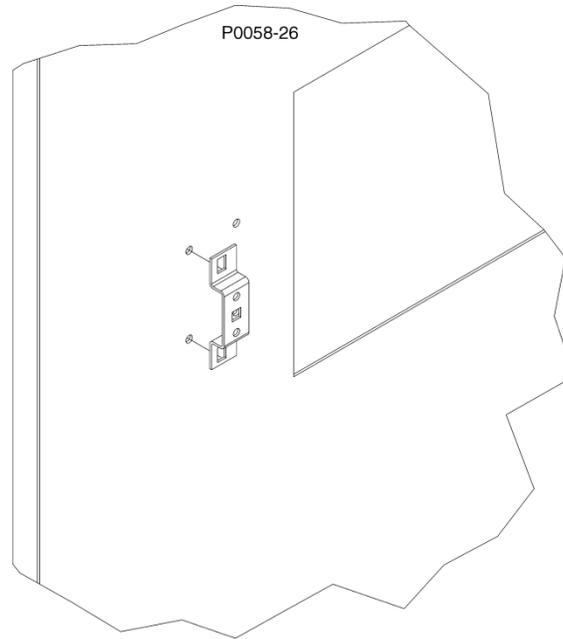

Figure 70. New Doorstop Mounting Location
7. Using the cutting dimensions illustrated in Figure 68, enlarge the door cutout to accommodate the larger IDP-1200 display panel. Using the drilling dimensions shown in Figure 68, drill new holes for relocation of the doorstop assembly (shown in Figure 70).
9. Remove the doorstop assembly and reattach it to the door using the mounting holes drilled in step 7. Figure 70 illustrates the new mounting location for the doorstop.